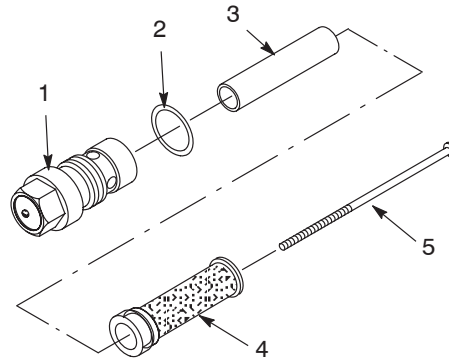

Figure 8 Filter components
1. See Figure 8. Disassemble the filter and discard the screen.